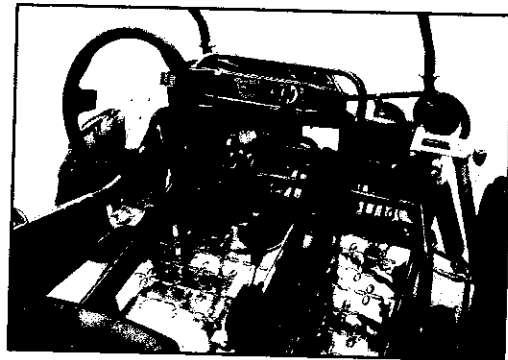

Figure 5
- d. The turning radius of this kart is small and agile, so the centrifugal force is very high when turning at high speed. Slow down to a more controllable speed when turning to prevent the kart from rolling over. The driver should keep their heels on the ramp of the main board when turning. (See Fig.5) Keeping their leg on the foot pedal, the driver can feel that the kart is stable and won't roll over.